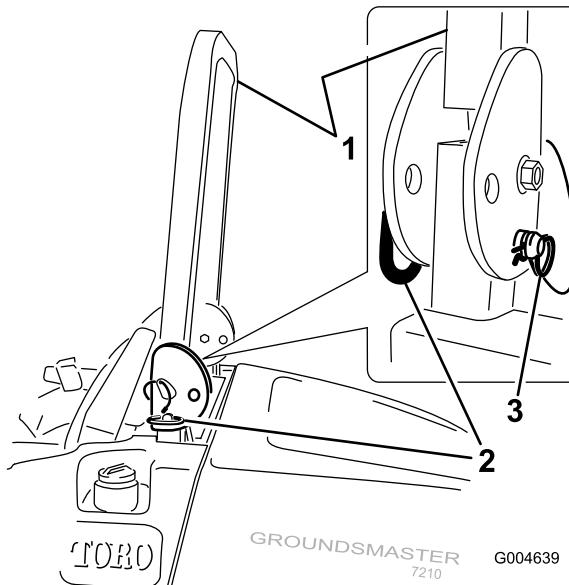

Figure 11
1. To lower the roll bar, remove the hairpin cotters, push the roll bar forward against the springs, and remove the two pins (Figure 11).
- Install the two pins and secure them with the hairpin cotter pins (Figure 11).
- To raise the roll bar, remove the hairpin cotter pins and remove the two pins (Figure 11).
- Raise the roll bar to the upright position and install the two pins and secure them with the hairpin cotter pins (Figure 11).